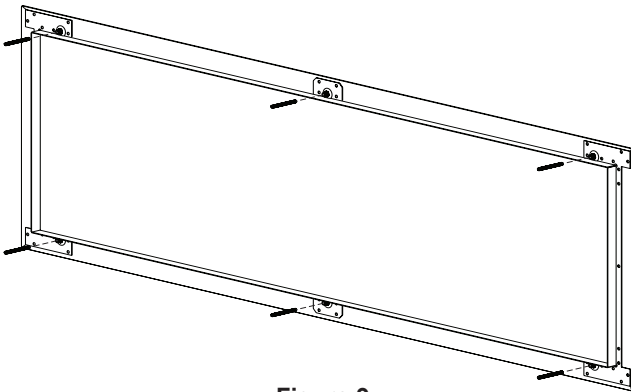

Figure 9
6. Install (6) threaded rods into (6) threaded inserts on the back of the trim kit. See Figure 9.